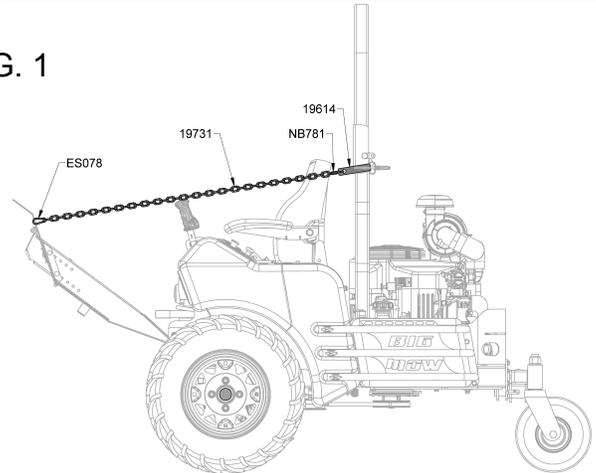

FIG. 2
- Run the winch strap out far enough to connect to the first strap mounting point (Mowing Mode Strap Mount Location on page 5). Remove the Ball Lock Pin from the Mow Height Adjustment Pin Plate if present. **(FIG 2)**